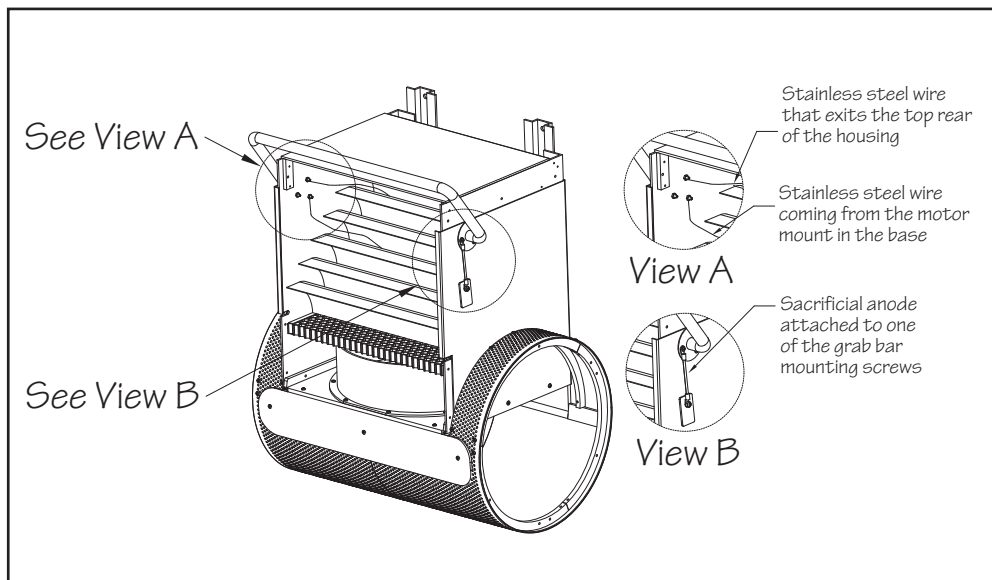

Fig. 6.8
- 6.10 Install the stainless steel grab bar to the upper housing using the provided stainless steel screws and lock nuts. Feed the stainless steel wire attached to the motor mount up through the horizontal grill. Then feed the wire up between two of the turning vanes. Place the stainless steel wire (from the motor mount in the base) around the bottom screw on the left side before tightening down on the nut. Place the second stainless steel wire (that exits the top rear of the upper housing) around another screw before tightening down on the nut. On the opposite side of the grab bar, secure the provided sacrificial anode under one of the grab bar mounting screws (Fig 6.8).